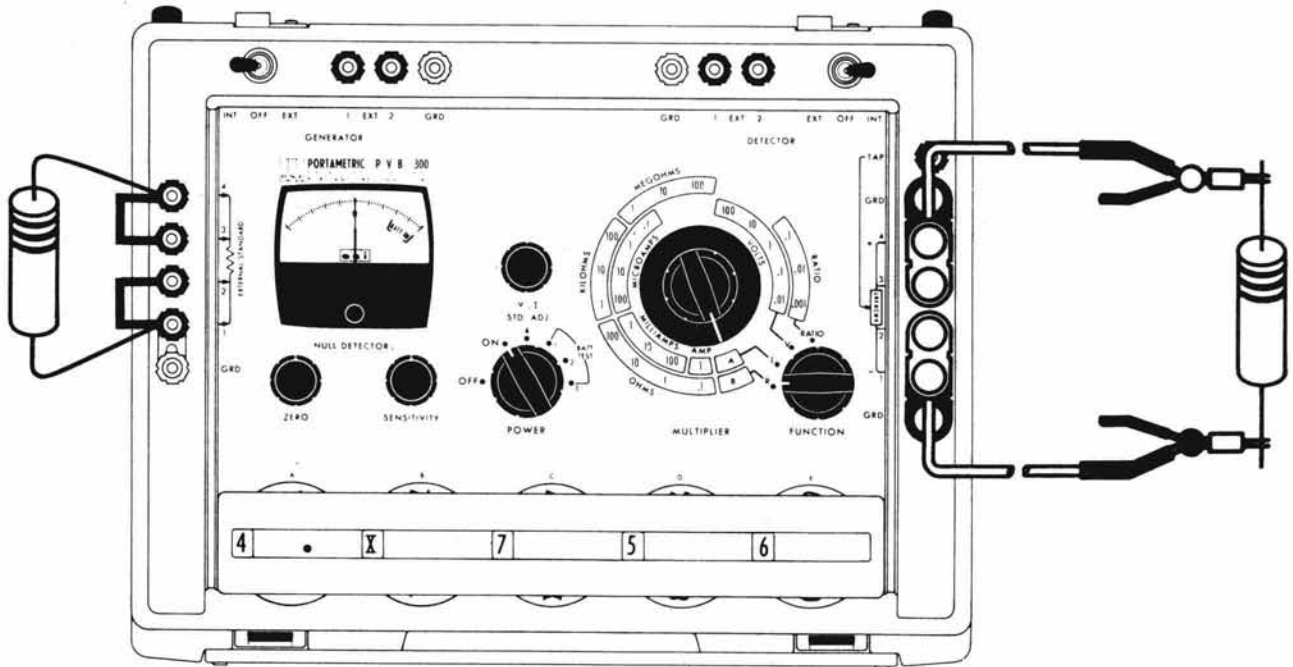

Figure 2.10 - Two-Terminal External Standard Connection
- 3) Connect reference resistor to EXTERNAL STANDARD terminals; 2-, 3-, or 4-terminal connections may be made, as shown in Figures 2.10, 2.11, and 2.12.